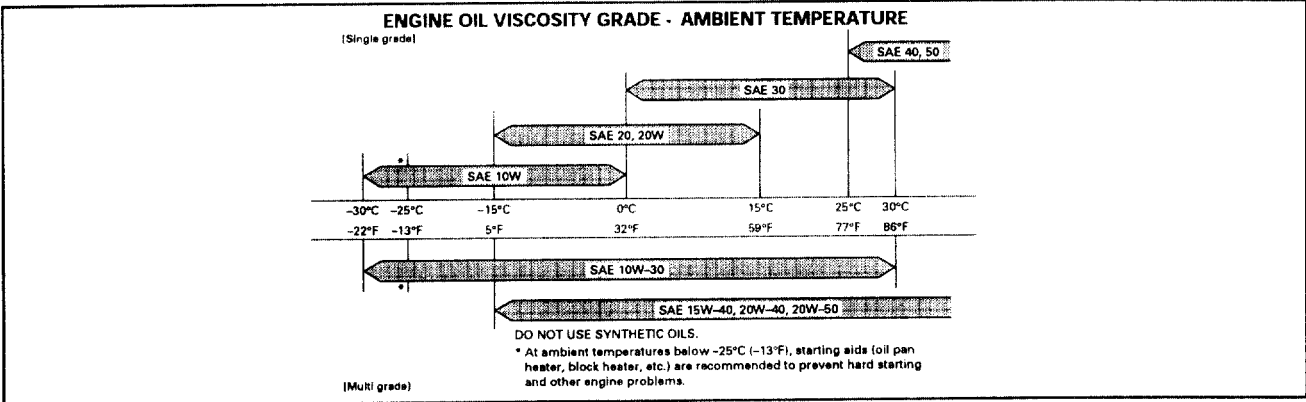

Figure 1 - Engine Oil Viscosity Grade
**CHOOSING OIL VISCOSITY (Figure 1)**